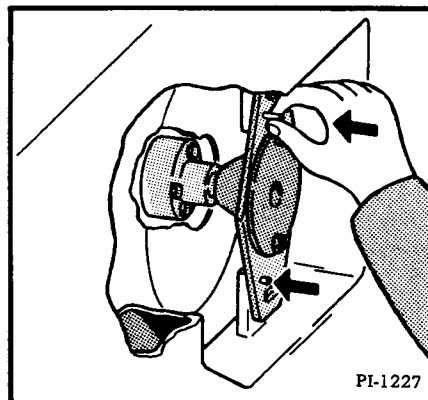
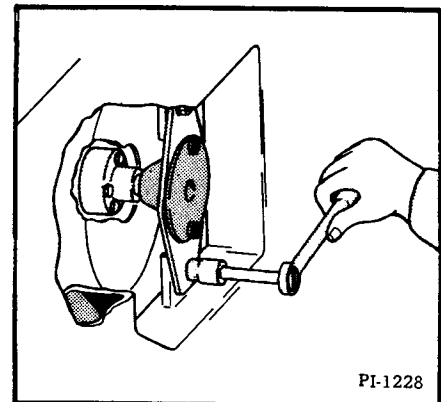

Fig. 41 Insert Aligning Pins
Fig. 42 Bolt Mounting Plate in Place
- (6) Slide the pump mounting plate and hub over the aligning shaft. The pump mounting plate should rest flatly against the pump mounting brackets (welded to the Bobcat frame). Insert 1/4" aligning pins through the drilled aligning holes in the pump mounting plate and the mounting brackets (Fig. 41). You may find it necessary to shift the engine slightly or to bend the pump mounting brackets to secure a flat contact between the mounting plate and brackets.
- (7) Bolt the pump mounting plate securely in place (Fig. 42). Bolt the engine securely to its mountings.
- (8) Remove the spark plugs from the engine and turn the engine through a full revolution to check the alignment. If resistance to rotation is felt, move the engine or bend the pump mounting brackets to realign.
- (10) Remove the pump mounting plate from the machine.
- (11) Install the hydraulic pump on the pump mounting plate in place of the aligning hub.
- (12) Install the pump drive adapter in place of the aligning shaft on the engine flywheel.
- (13) Install the pump and its mounting plate and secure the plate in position with the aligning pins (Fig. 41). Bolt the pump mounting plate securely in place (Fig. 42). The pump drive adapter and the pump drive shaft must be secured together.